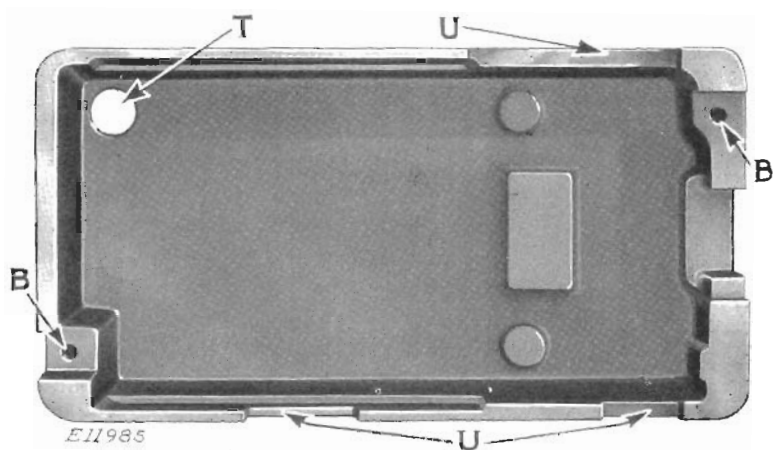

FIG. 28. INSIDE VIEW OF BAKELITE TREADLE CONTROLLER COVER
Treadle Controller. Remove the controller from the stand to which it is attached, and remove the controller leads from the cabinet. Remove the two screws which fasten the cover, Fig. 28, to the base, Fig. 26, at (B), and lift the cover from the base. Inspect the wires and connections at (D, Fig. 26).
Replace the Cover—Treadle Controller. (See Fig. 28). Pass the controller leads through the opening (T) in the cover;